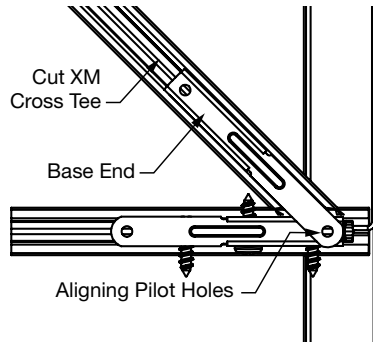

Fig 35
- Place a PAC over the bulb of the cut XM Cross Tees so that the pilot hole on the flat side aligns over the top the pilot hole of the base side of the previously installed PAC (**Fig 35**).